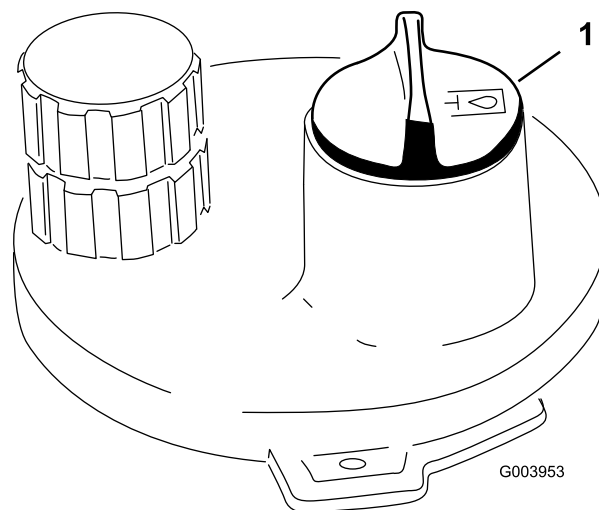

Figure 35
3. Clean area around filler neck and cap of hydraulic tank (Figure 35). Remove cap from filler neck.